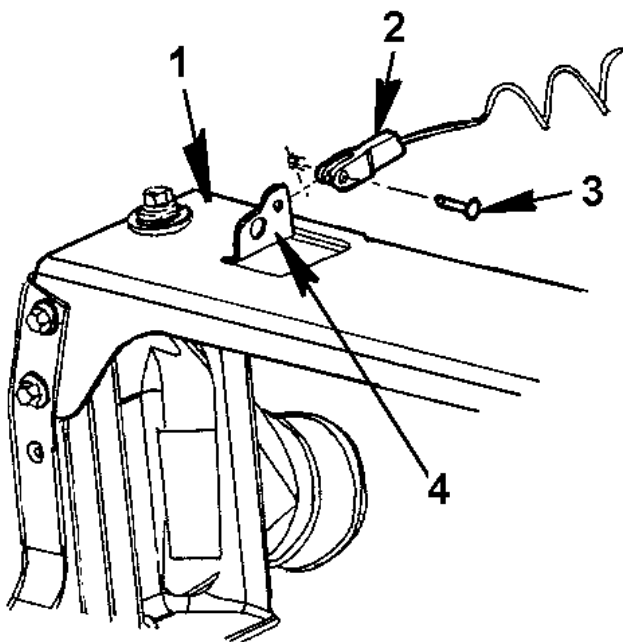

Figure 28 Retaining Pin and Clevis Removal
8. Remove the retaining pin from the clevis and radiator top frame cable bracket (Figure 28, Item 4) and remove the clevis (Figure 28, Item 3) from the radiator top frame clevis bracket.